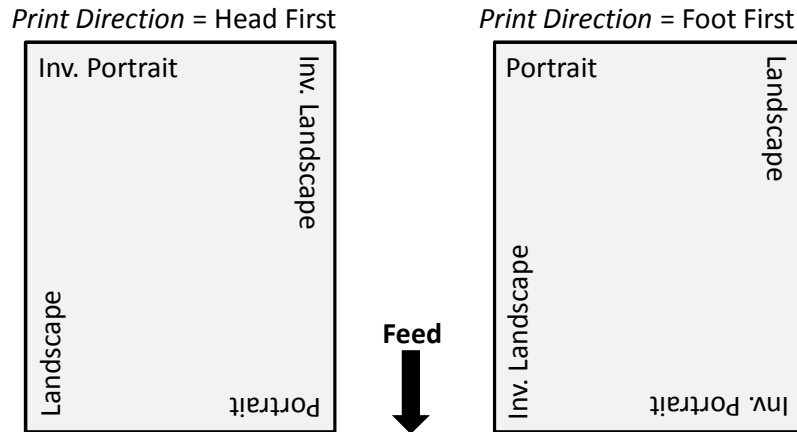

Figure 20. Orientation versus Print Direction
This is illustrated in Figure 20 where text is placed at the origin according to its Orientation setting. ZGL has its own independent setting for Orientation.
- **Foot First** makes Portrait elements feed last (see Figure 20).